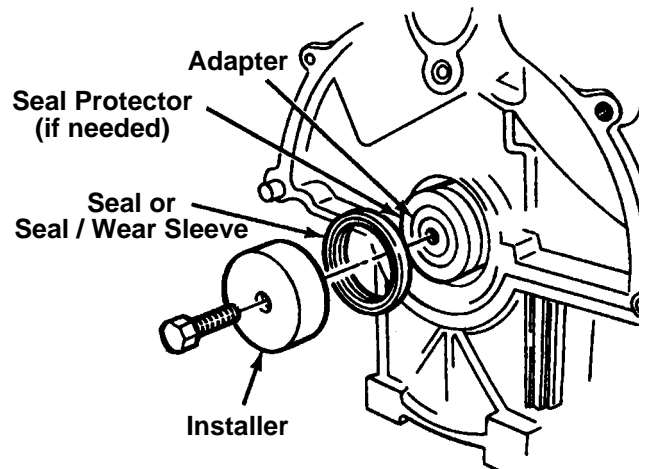

Figure 2
3. Install the new seal as shown in Figure 2: